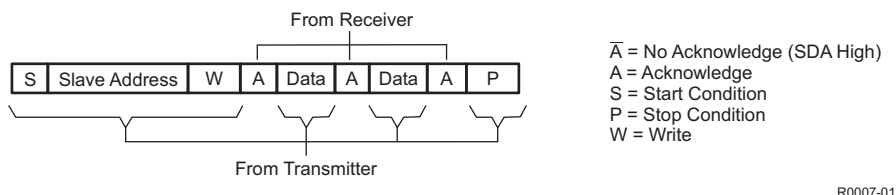
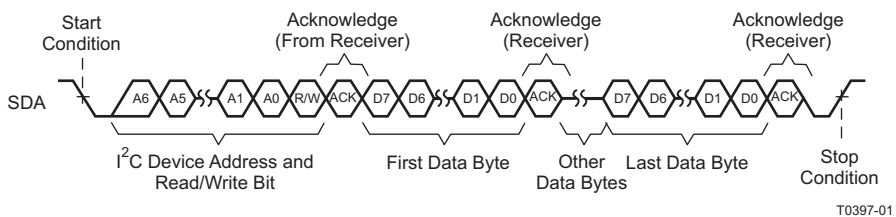
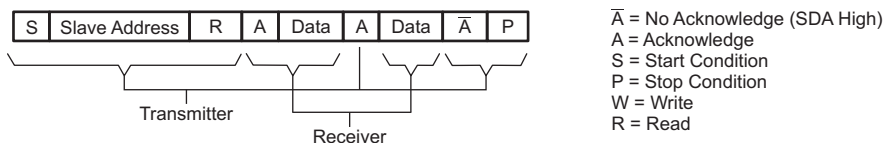
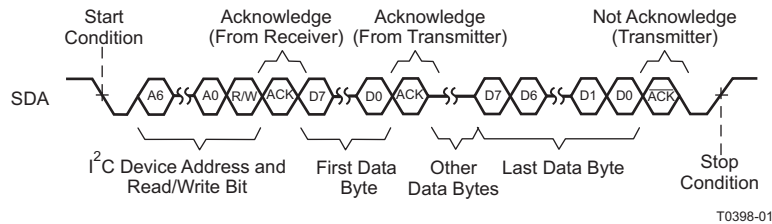

Figure 54. I²C Write Cycle
Figure 55. Multiple-Byte Write Transfer
Figure 56. I²C Read Cycle
Figure 57. Multiple-Byte Read Transfer
- The master generates further SCL cycles to either *transmit* data to the slave (R/W bit 0) or *receive* data from the slave (R/W bit 1). In either case, the *receiver* must acknowledge the data sent by the *transmitter*. So an acknowledge signal can be generated either by the master or by the slave, depending on which one is the receiver. The 9-bit valid data sequences consisting of 8-bit data and 1-bit acknowledge can continue as long as necessary (See Figure 54 through Figure 57).
During a write cycle, the transmitting device must not drive the SDA signal line during the acknowledge cycle so that the receiving device may drive the SDA signal low. After each byte transfer following the address byte, the receiving device pulls the SDA line low for one SCL clock cycle. A stop condition is initiated by the transmitting device after the last byte is transferred. An example of a write cycle can be found in Figure 54 and Figure 55. Note that the TMDS261B allows multiple write transfers to occur. See the Example – Writing to the TMDS261 section for more information.
During a read cycle, the slave receiver acknowledges the initial address byte if it decodes the address as its address. Following this initial acknowledge by the slave, the master device becomes a receiver and acknowledges data bytes sent by the slave. When the master has received all of the requested data bytes from the slave, the not-acknowledge (A) condition is initiated by the master by keeping the SDA signal high just before it asserts the stop (P) condition. This sequence terminates a read cycle as shown in Figure 56 and Figure 57. See the Example – Reading from the TMDS261 section for more information.